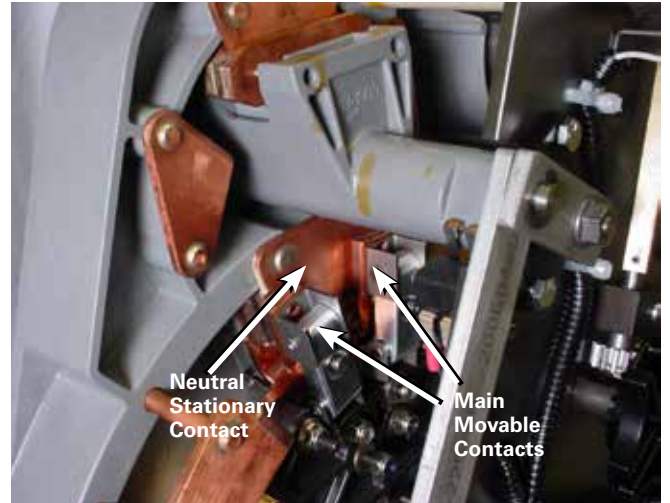

Figure 50. Neutral stationary contact position for main movable contacts.
- A. Main movable contacts are located on the neutral stationary contact, which is located at the 11 o'clock position and under the reversing switch movable contact assembly. See Figure 50.